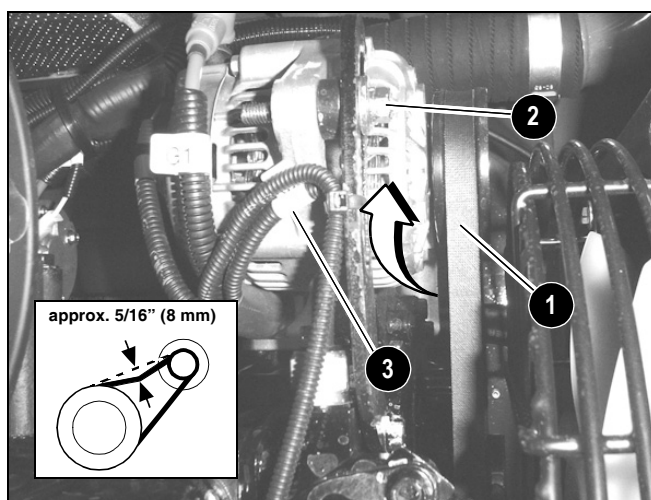

Figure 4-10 Checking & Adjusting V-belt Tension
5. Carefully inspect the V-belt (1, Figure 4-10) for damage. If the V-belt (1) is damaged, have it replaced by your dealer.
- a. Loosen adjustment bolt (2) and rotate the alternator (3) in the direction of the arrow until V-belt tension is correct.
- b. Tighten adjustment bolt (2) and re-check V-belt tension.